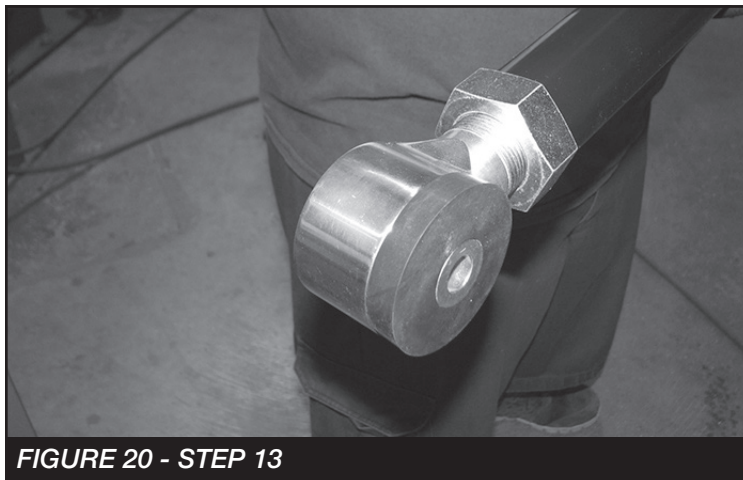

FIGURE 20 - STEP 13
13. Install (2) FT50415 (9/16" Misalignments) into one end of the FT50641 (Lower Link). Then, install (2) FT50594 (5/8" Misalignments) into the other end as well as (1) FT50509 (Link twist washer). **SEE FIGURE 20 NOTE: See diagram on page 8 for misalignment identification.**